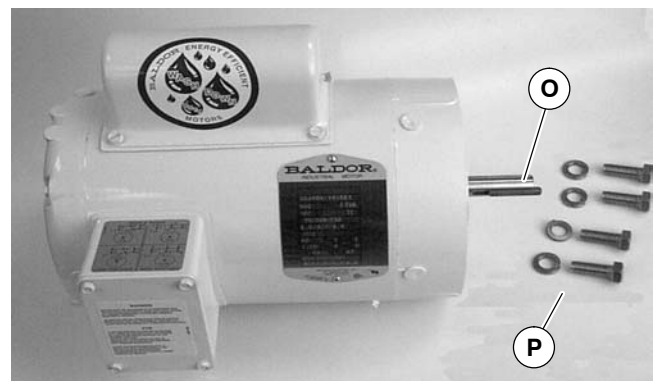

Figure 17
1. Install key (O of Figure 17).